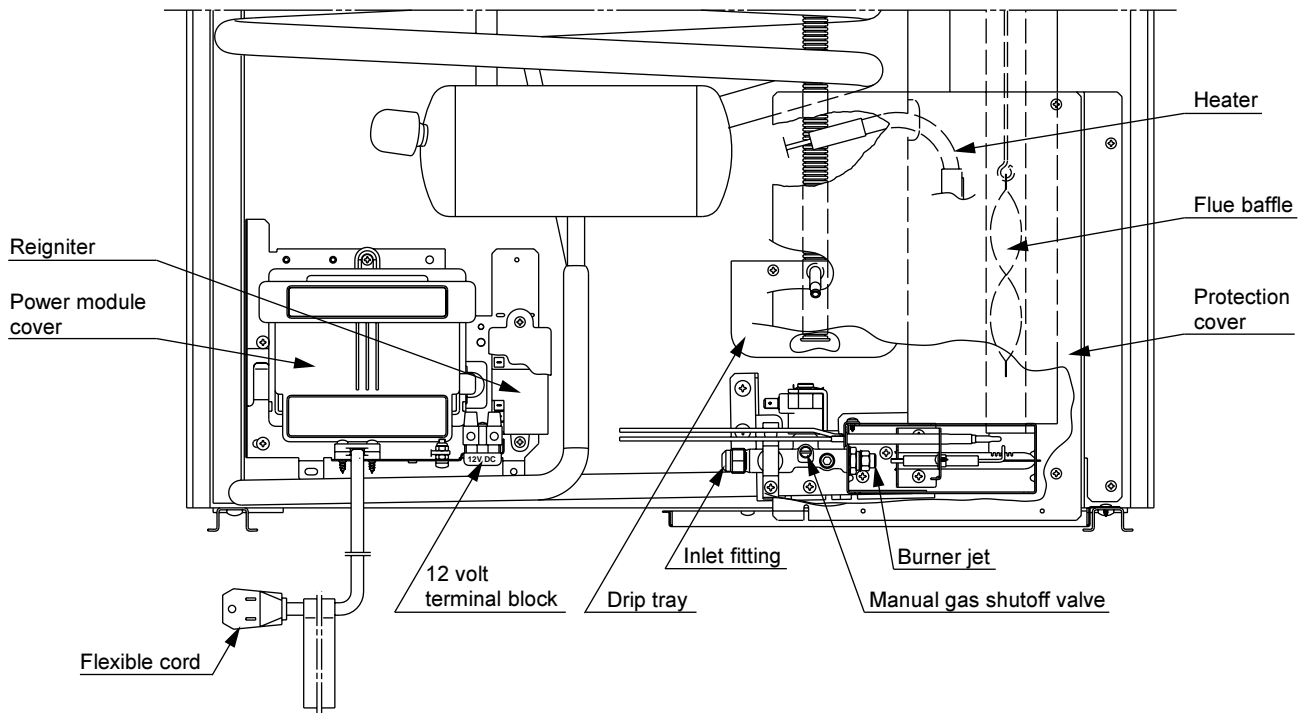

FIG. 1
The connection is made to the positive (+) and negative (-) terminals located at the rear of the refrigerator. (See FIG. 1). Correct polarity must be observed when connecting to the DC supply.
2. Check that the gas flame is lit and the GAS mode indicator lamp (C) is on.
3. Close the manual gas shutoff valve at the back of the refrigerator. (See FIG. 1).
4. Wait for one minute. The CHECK indicator lamp (D) should be on and the GAS mode indicator lamp (C) should be off.
5. Remove protection cover (see FIG. 1) and open the manual gas shutoff valve. Do not change any button positions on the control panel. Apply a non-corrosive commercial bubble solution to the burner jet orifice.
7. If no bubbles were present at the burner jet orifice, it should be rinsed with fresh water. Be careful not to damage the burner jet orifice. Replace cover and press the main power ON/OFF button (1) OFF and back ON. Normal operation of the burner should return. Allow the burner to operate for a minimum of 5 minutes.